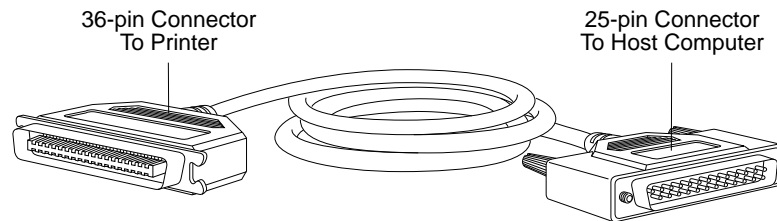

Fig. 2.20 The Parallel Cable
You need a standard Centronics parallel cable to connect your host and printer (fig. 2.20). The parallel port on the rear of the printer uses a 36-pin connector. The parallel port on your host computer uses a 25-pin connector.
2. Plug the 36-pin connector end of the parallel cable into the parallel port on the back of the printer (fig. 2.20).